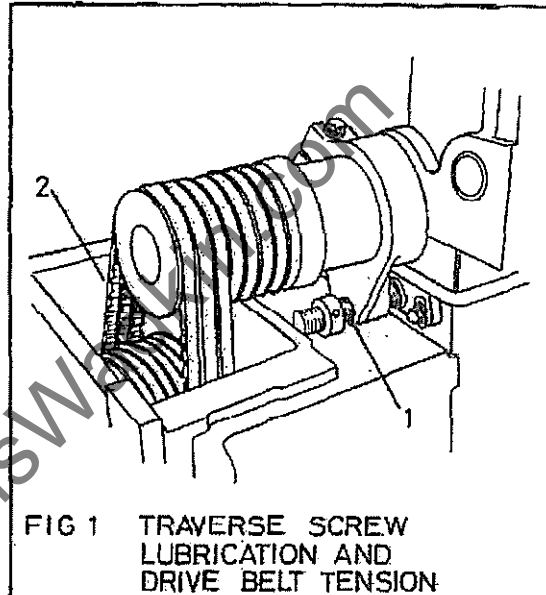

FIG 1 TRAVERSE SCREW LUBRICATION AND DRIVE BELT TENSION
Three Monthly (Fig 1)
- 2) Remove cover to expose spindle pulley and belts (Fig 1).